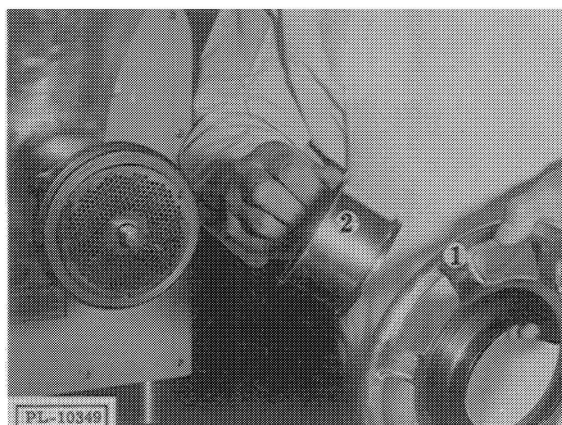

Fig. 1
1. The model 80A molding machine attaches to your chopper by means of an adapter (size 32, 42, 46, 52 & 56). Remove the chopper handwheel (1, Fig. 1) (allow